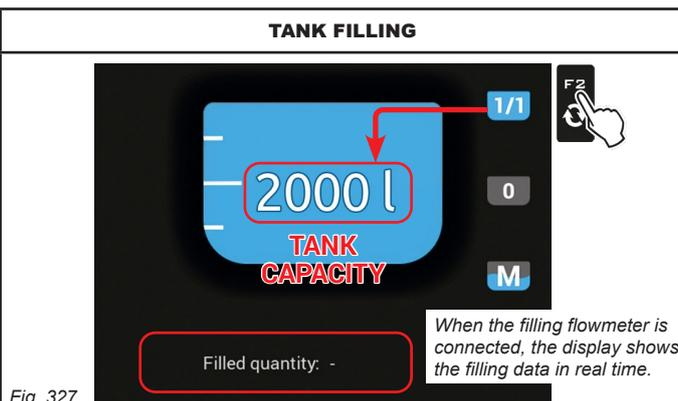

Fig. 327
- Complete filling, according to the tank capacity (Fig. 327)